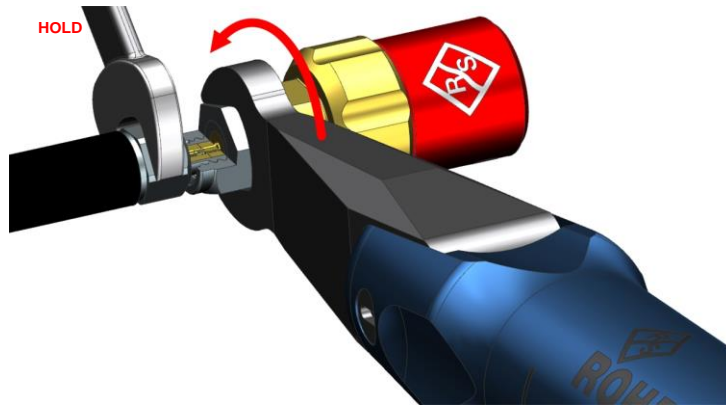

Fig. 4-7: Applying the correct torque to the connection
4. Once firmly coupled, the nut should be torqued to prescribed limits using a calibrated torque wrench, while holding the opposite part of the connector stationary with a spanner (Fig. 4-7).